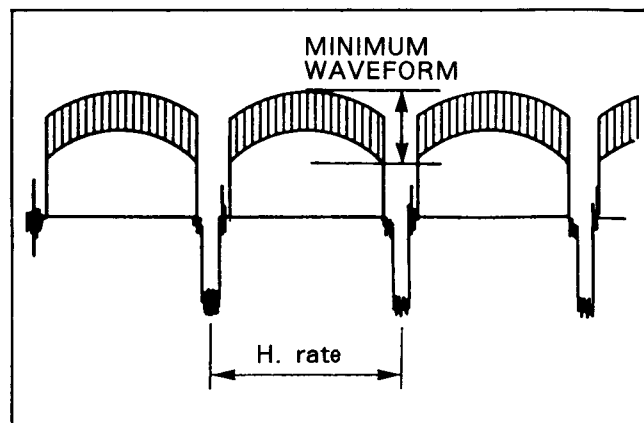

Fig. C29
- (1) Adjustment condition and procedure are same as using vectorscope.
- (2) Adjust VR525 and VR526 so that the waveform minimized as shown in Fig. C29.